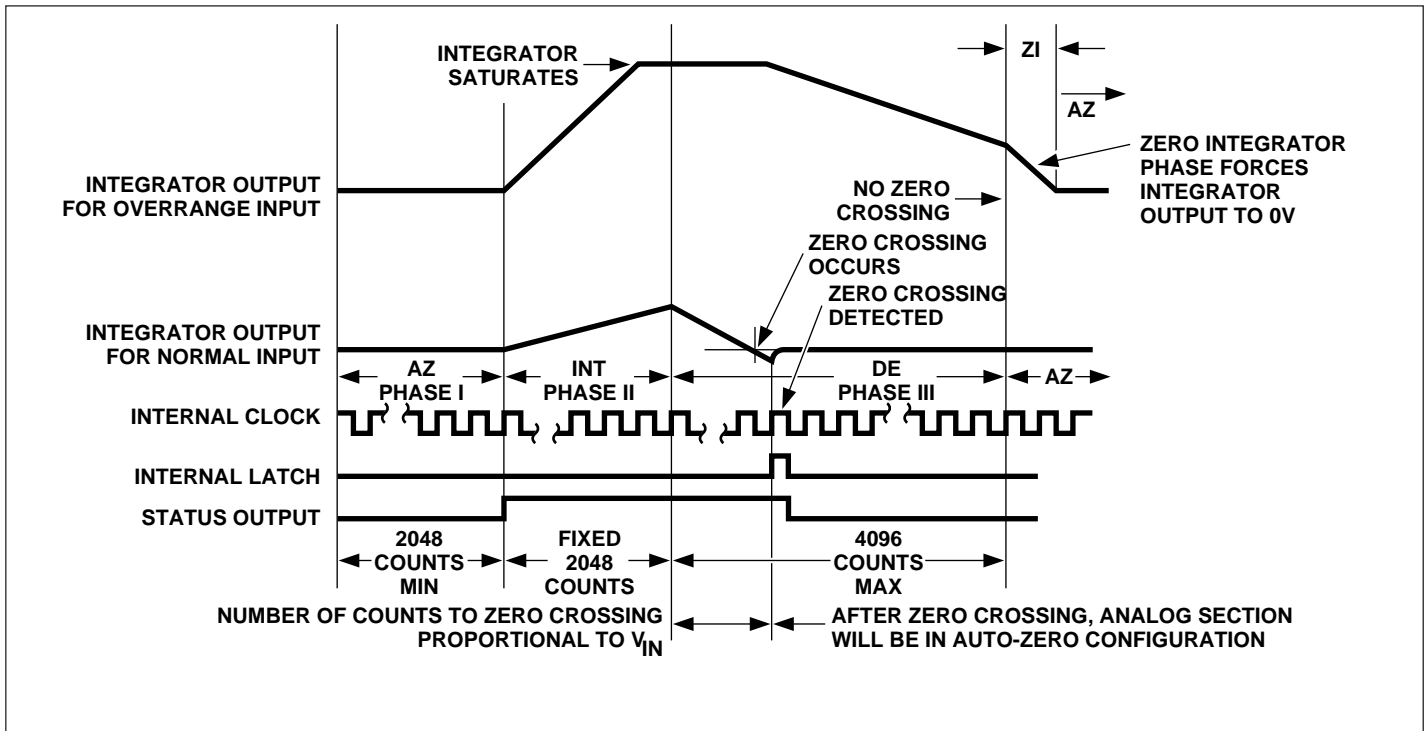

Figure 3. Conversion Timing (RUN/HOLD Pin High)
The functional diagram shows a block diagram of the analog section of the TC7109A. The circuit will perform conversions at a rate determined by the clock frequency (8192 clock periods per cycle), when the RUN/HOLD input is left open or connected to V^+ . Each measurement cycle is divided into four phases, as shown in Figure 3. They are: (1) Auto-Zero (AZ), (2) Signal Integrate (INT), (3) Reference Deintegrate (DE), and (4) Zero Integrator (ZI).
During ZI, the reference capacitor is charged to the reference voltage. The signal inputs are disconnected from the buffer and integrator. The comparator output is connected to the buffer input, causing the integrator output to be driven rapidly to 0V (Figure 3). The ZI phase only occurs following an overrange and lasts for a maximum of 1024 clock periods.
During a conversion cycle, the STATUS output goes HIGH at the beginning of signal integrate and goes LOW one-half clock period after new data from the conversion has been stored in the output latches (see Figure 3). The signal may be used as a "data valid" flag to drive interrupts, or for monitoring the status of the converter. (Data will not change while status is LOW.)
With the RUN/HOLD input high, or open, the circuit operates normally as a dual-slope ADC, as shown in Figure 3. Conversion cycles operate continuously with the output latches updated after zero crossing in the deintegrate mode. An internal pull-up resistor is provided to ensure a HIGH level with an open input.